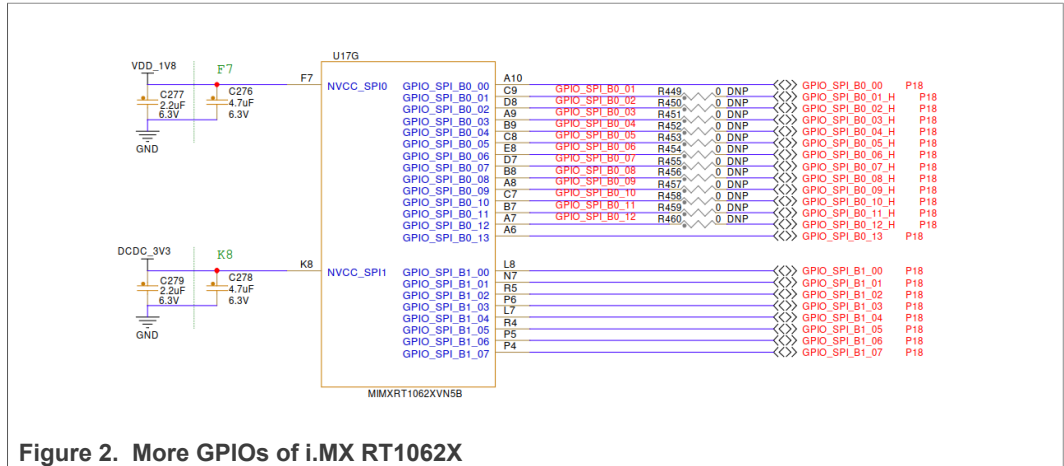

Figure 2. More GPIOs of i.MX RT1062X
i.MX RT1060X has an additional 22 GPIOs when compared to i.MX RT1060 (added to GPIO10), providing more flexibility for system designs. Those added GPIOs can also be configured as FlexSPI function to interface with different memories. These additional GPIO signal locations are show in Figure 2.